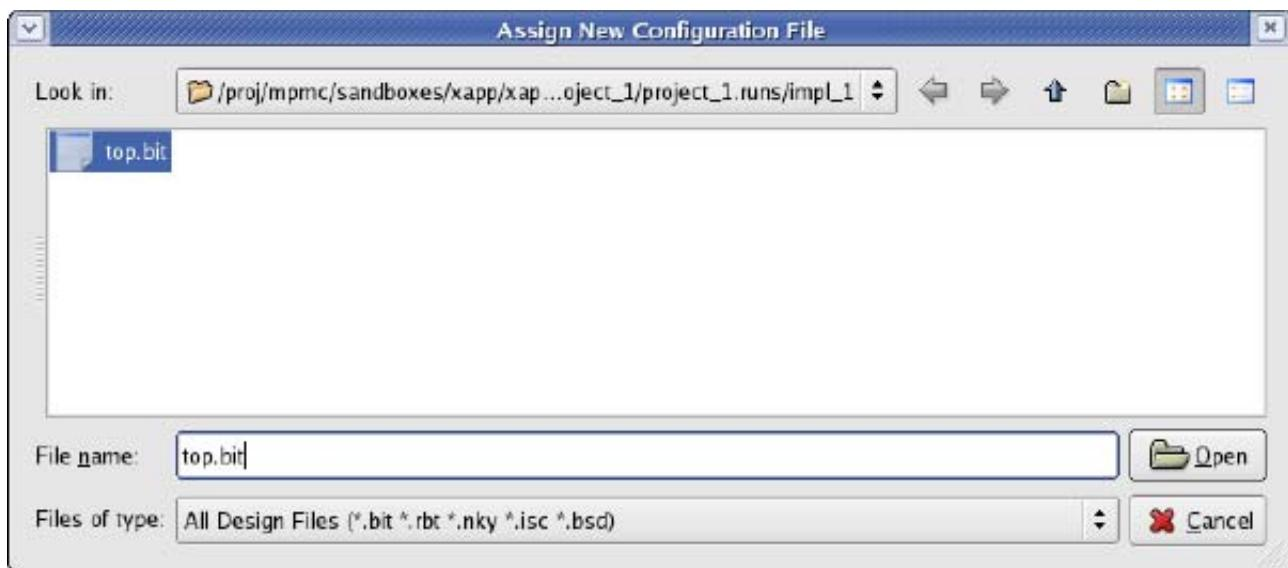

Figure 13: Assign New Configuration File Dialog Box
6. Browse to <design_dir>/vivado/project_1.runs/impl_1, select top.bit, and click Open (Figure 13).